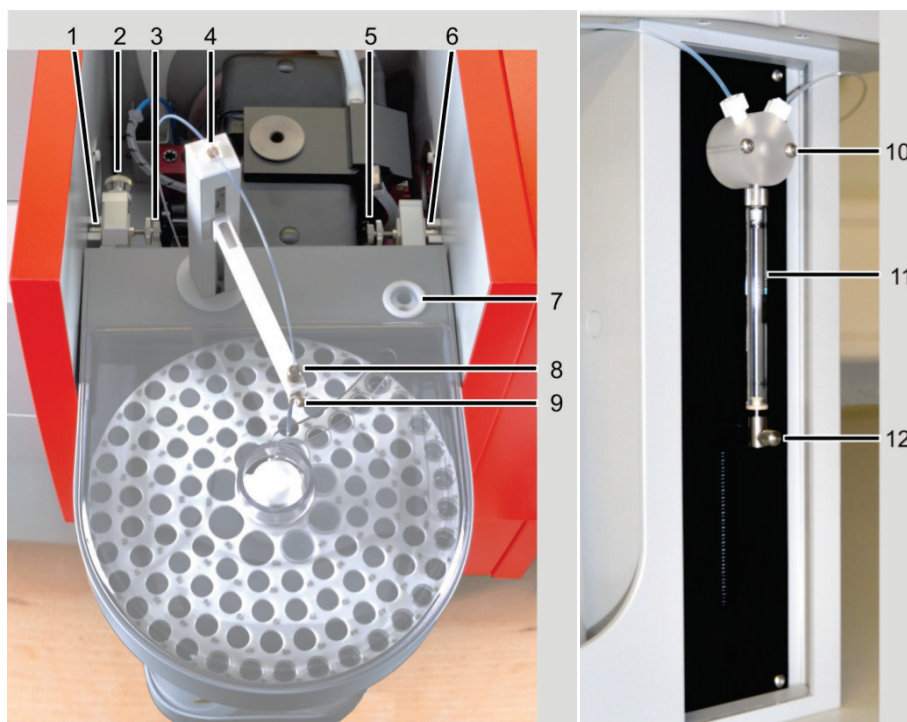

Fig. 36 Installing the AS-GF
1. Install the tube guide (8 in Fig. 36) to the autosampler arm of the AS-GF and attach using the lock screw.
2. Screw the dosing tube into the right opening of the T valve (10 in Fig. 36) on the dosing unit. Feed the dosing tube through the tube holder on the back of the autosampler and on the autosampler arm. Insert the dosing tube into the tube guide (8 in Fig. 36) until the tube end protrudes approx. 8 mm from the tube guide at the bottom; attach the tube using a clamp nut.